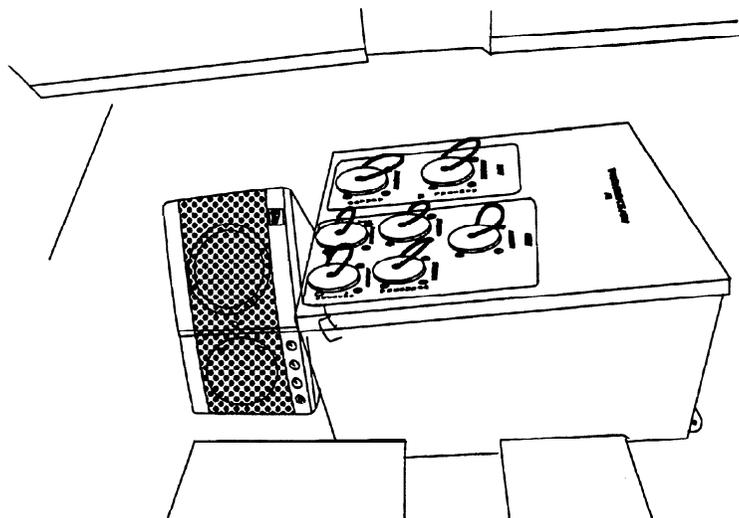

Figure 2-57 . Tank Interface Assembly and Speaker/Amplifier (M1A1)
2.4.7.4.5 Tank Interface Assembly Positioning and Connection. Install the Tank Interface Assembly, shown in Figure 2-57, as follows: